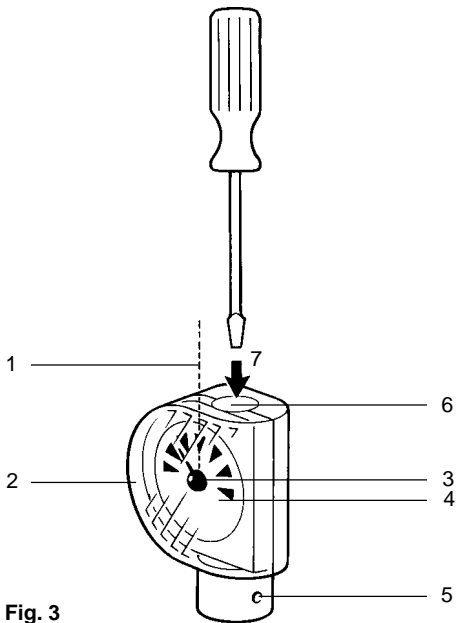
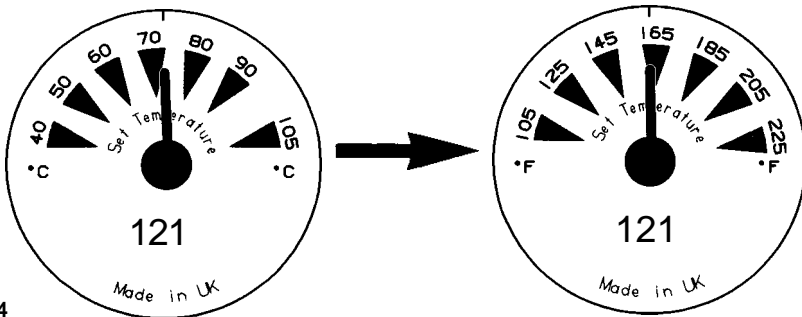
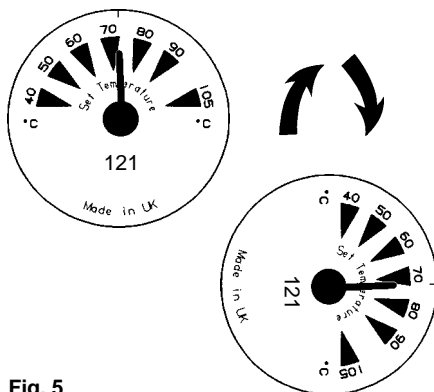
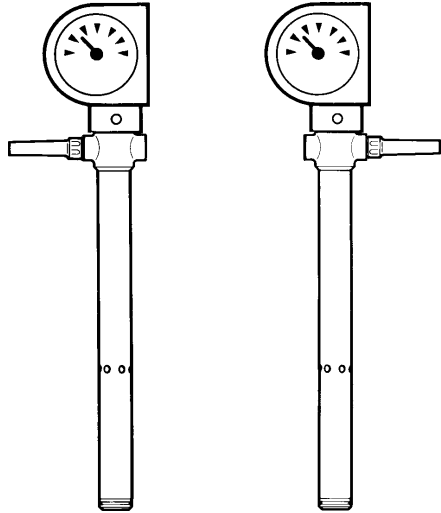

Fig. 3
Fig. 4
Fig. 5
Fig. 6
1. Selection of °C or °F (See Fig. 4)
2. Rotation of temperature scale (See Fig. 5)
For the following instructions you should make reference to **Figure 3** and **Figure 4**.
1. Remove tamper proof plug (Fig 3, Item 6) and use a suitable screwdriver to set indicator (Fig 3, Item 3) to midway mark (Fig 3, Item 1)
2. Remove transparent cover (Fig 3, Item 2)
3. Remove temperature indicator (Fig 3, Item 3)
4. Remove temperature indicator scale (Fig 3, Item 4) and select °C or °F (Double sided) as required (Fig 4) and replace.
5. Replace indicator to the midway position (Fig 3, Item 1)
6. Replace transparent cover. (Fig 3, Item 2)
In some instances it may be necessary to rotate the scale so the set temperature may be more easily read. In such cases the following procedure should be adopted and references made to Figure 3 and Figure 5.
1. Remove tamper proof plug (Fig 3, Item 6) and use a suitable screwdriver to set indicator (Fig 3, Item 3) to midway point (Fig 3, Item 1)
3. Remove indicator (Fig 3, Item 3)
4. Remove the scale (Fig 3, Item 4) from the indicator and relocate to desired position.
5. Replace indicator (Fig 3, Item 3) to the midway point of the scale. (Fig 3, Item 1)
The dial head itself may be rotated through 180° if necessary. In such cases the following procedure should be adopted and reference made to **Figure 3** and **Figure 6**.
4. Remove dial head retaining screws (Fig 3 item 5).
6. Replace dial head retaining screws (Fig 3, Item 5).
For the following instructions you should make reference to **Figure 3**. The sensor is despatched with its adjustment set to the highest limit and should be set on site to the midway mark (Fig 3, Item 1). To make any adjustments to suit individual requirements a suitably sized screwdriver is engaged in the adjustment drive (Fig 3, Item 7) on the end of the indicator dial. Turning clockwise will lower the temperature, anticlockwise will increase it. After setting the plant to work, compare the thermometer reading with the scale reading on the temperature control reading. This may be found to differ by a few degrees, if precise control is required it can be adjusted by resetting the scale as follows:-
1. Remove the transparent front cover (Fig 3, Item 2) of the indicator head and turn the indicator manually (Fig 3, Item 3) until it corresponds to the actual temperature.
2. Replace transparent cover (Fig 3 Item 2)